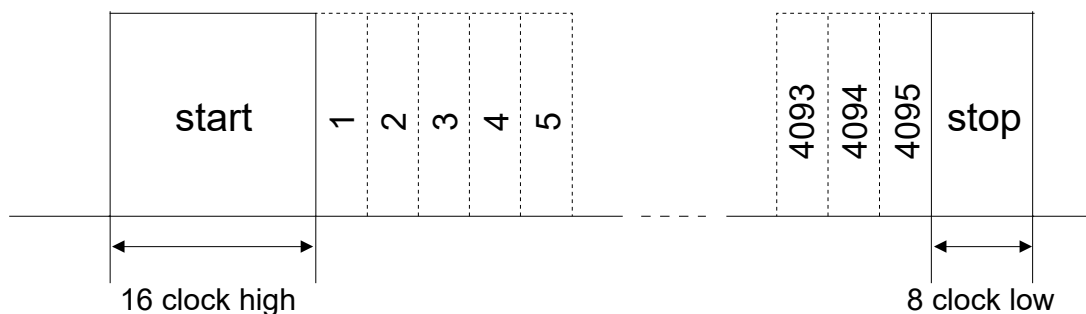

Figure 7. PWM output signal
TMR3108P supports pulse width modulation (PWM) output. The duty cycle of PWM is a logic signal proportional to the magnetic field angle. Figure 7 shows one period of the PWM signal, and the period (T) is 1/FPWM. This period consists of 4119 minimum clock periods, starting from fixed 16 clock periods of high voltage and ending with 8 clock periods of low voltage. The total period (T) in between contains 4095 clock periods with a resolution of 12-bits. The minimum clock period is user programmable.